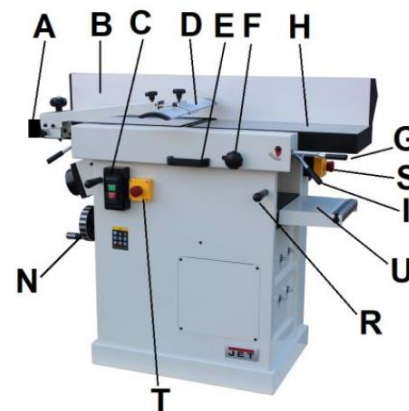

Fig 1
- N....Thickness table adjust handwheel(Fig.1)
- S.....E-Stop Switch (Fig.1)
The planer tables are precisely aligned ex. works. They may only be loaded when they are closed and the table-cabinet locks (I, Fig. 1) are engaged, otherwise they may be damaged.